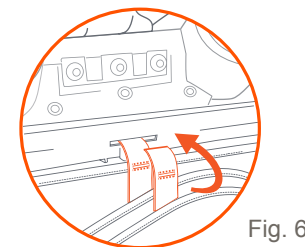

Fig. 6b
(2) Flip tray over with slots facing towards the seat and canopy (Fig. 6b).
NOTE: First thread the middle canopy strap through the slot. Second insert the middle seat strap through the slot (Fig. 6b).